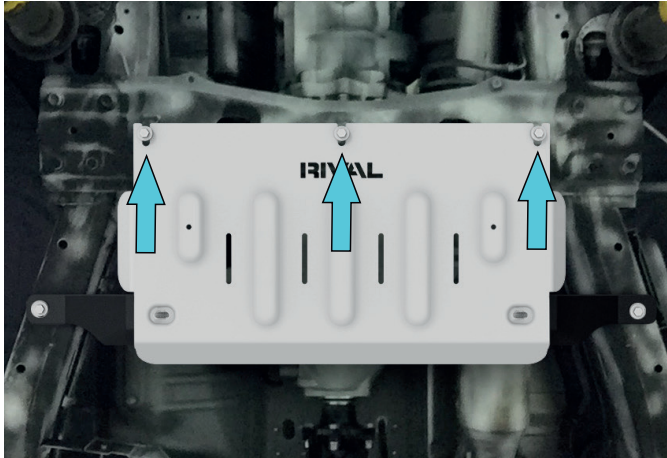

Fig. 3.1
**3.1 If RIVAL transmission skid plate is NOT installed:** Slide the skid plate (item 1) on the front bolts from step 2 as shown in fig. 3.1.